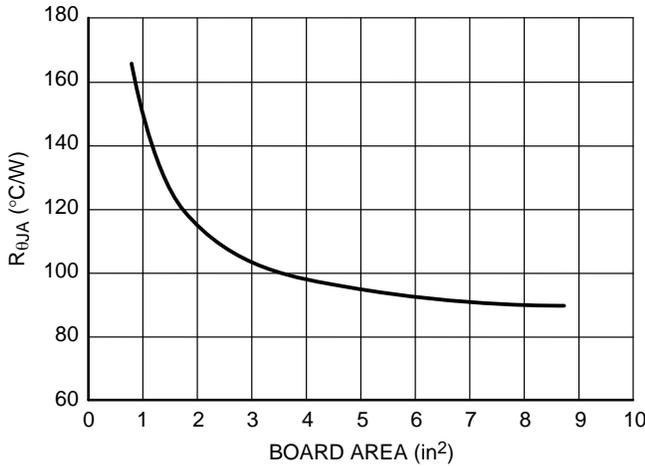
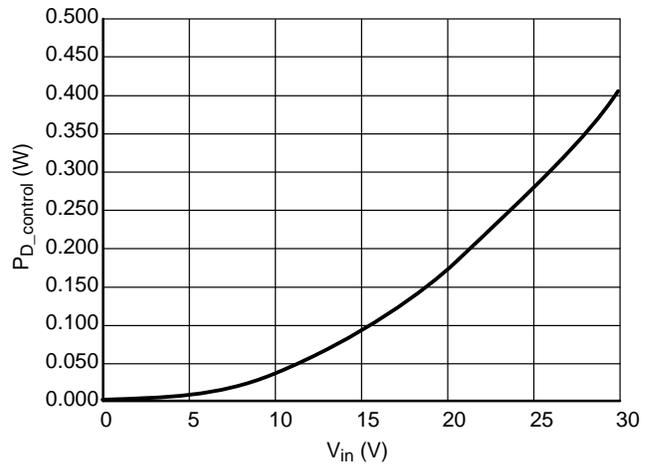

Figure 4.  $R_{\theta JA}$  versus Board Area
Figure 5. Power Dissipation vs.  $V_{in}$  for the NUD4001
5. Calculate the power dissipation in the NUD4001 control circuitry based on the information in Figure 4 of the data sheet.
There will be some additional current flowing through the NUD4001 due to the external resistor R2 and Schottky diode D1. A good estimate is to take 1.1 times the value shown in Figure 5 as being the new internal power dissipation in the control section of the NUD4001.
8. Calculate the heatsink requirements for the NUD4001 based on the information in Figure 11 in the data sheet. This graph is reproduced as Figure 5 in this paper. From Figure 4, the worst case  $R_{\theta JA} = 170^\circ\text{C}/\text{W}$  with minimum board area.